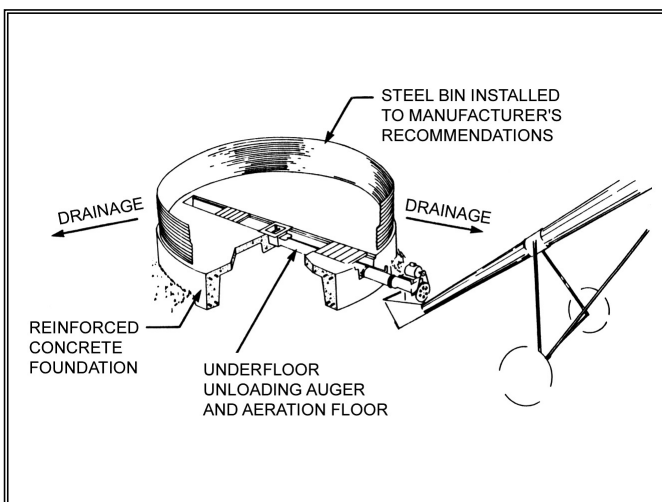

Figure 2 Grain Bin Floor
- Construct a properly reinforced concrete foundation which is high enough to be well above grade and therefore well drained. **(Figure 2).**